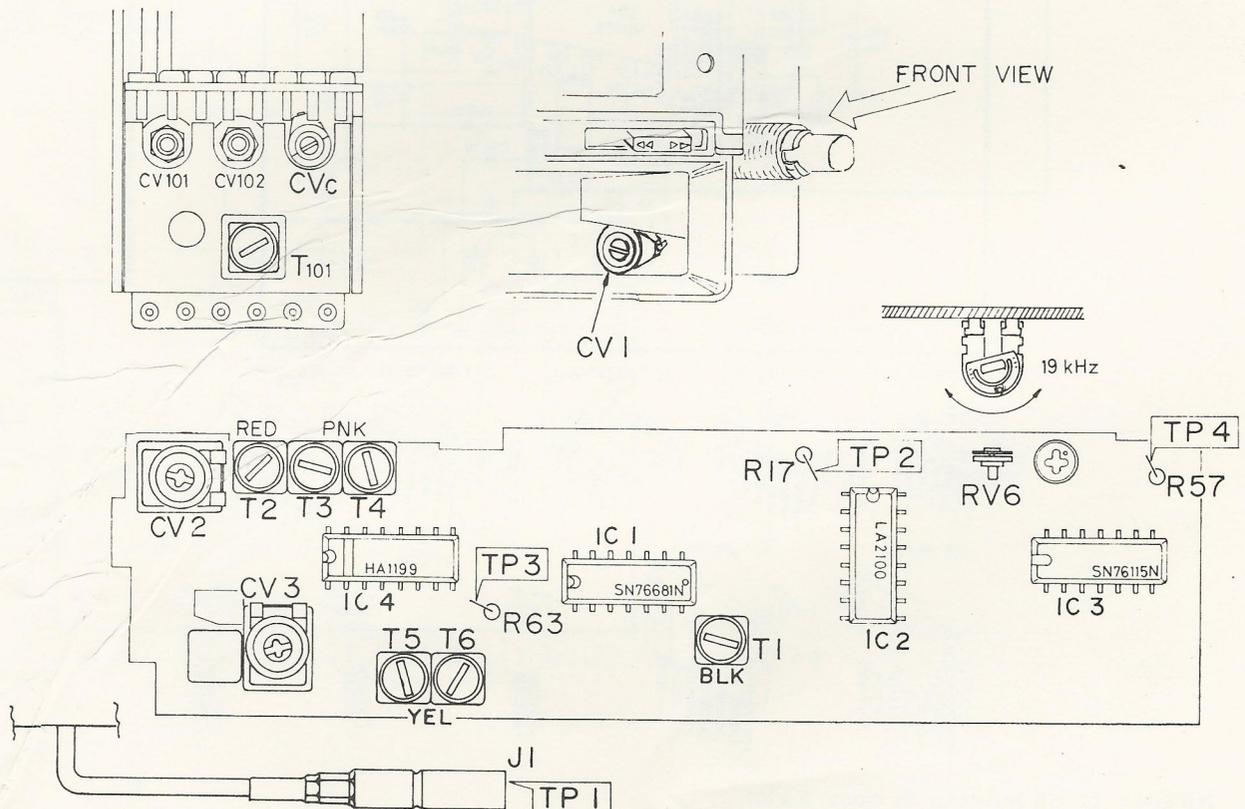

Fig. 10 ADJUST POINTS
| Connect [TP1] in Fig. 10 through 0.01 $\mu$ F capacitor | Connect [TP3] in Fig. 10 through 27k-ohm resistor | Connect with HORIZONTAL terminal of sweep generator |
### (2) Alignments (Refer to Fig. 10 for ADJUST POINTS.)
(2) Alignment (Refer to Fig. 10 for ADJUST POINTS.)
[ 2 ] Tracking alignment (Refer to Fig. 10 for ADJUST POINTS.)
(2) Alignment (Refer to Fig. 10 for ADJUST POINTS)
(1) Alignment (Refer to Fig. 10)